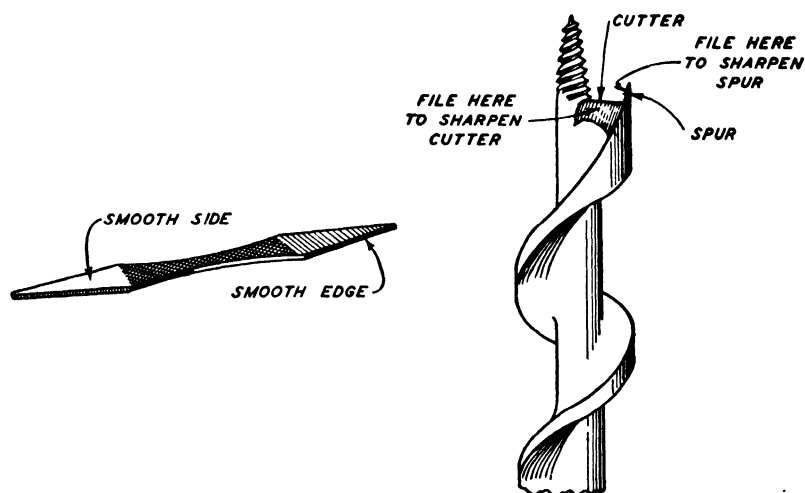

Fig. 34. Auger Bit File and Enlarged Detail of Cutter
**Sharpening Auger Bits.** The single cutter-head is sturdier than the double-cutter head, and it also is easier to file after you have struck a nail or other hard substance. For this type of filing you should use a small file with a fine cut. Fig. 34 shows a file made expressly for this purpose. On one end it has teeth in the flat sides and none in the flat edges, and on the other end it has teeth in the edges
File the outlining spur on the inside only, as shown in Fig. 34, because the spur must cut at the point of maximum diameter for easy boring. The cutter, that is, the edge at the end of the spiral that cuts and lifts the chip, should be filed mostly on its upper or lifting face, Fig. 34, although a bad nick or bulge in the lower face should be filed out. The "lead" of the spur, that is, the distance that the spur extends beyond the edge of the cutter, should never be less than the thickness of the chip. The original angles of the cutting edges should be maintained as closely as possible. Otherwise, the bit will not cut well.